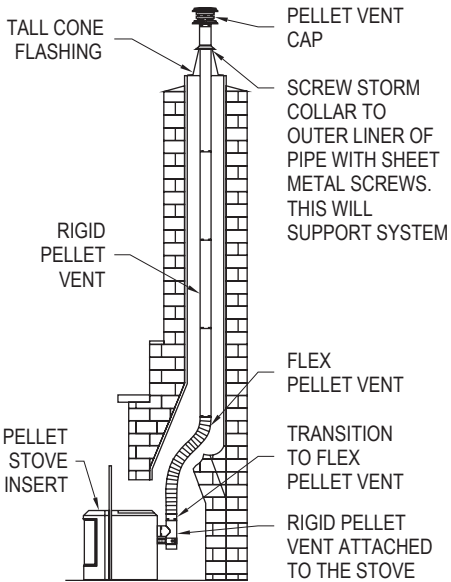
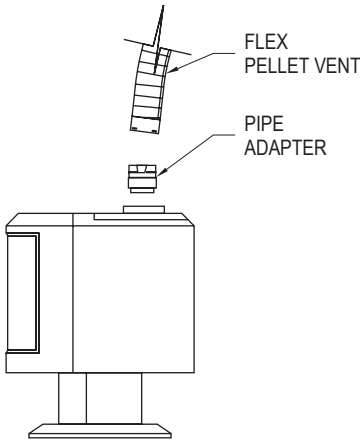

Figure 10
Figure 11
8. In making the connection at the appliance, configurations other than the one shown in **Figure 10** may be made. It may be necessary to contact the manufacturer of the unit to determine exactly what may or may not be done to make the correct connection. Some typical arrangements are shown in **Figures 11 and 12**. An Appliance Adapter may be needed, depending on the exit size of the stove or insert collar.